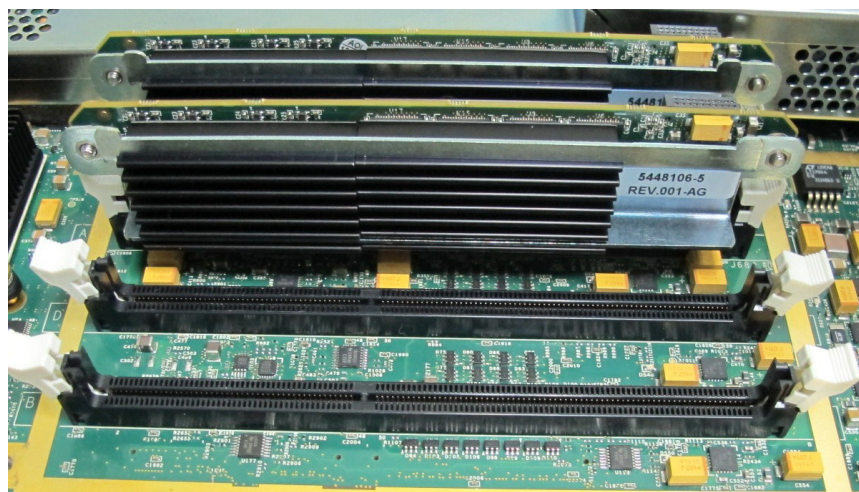

Figure 8-187 TR32X Grooves and Holders on the CFE Board
- 1) Gently slide a new TRX32 Board into the retaining grooves located on the CFE Board, pressing the board firmly downwards until it is in position as shown in Figure 8-187.